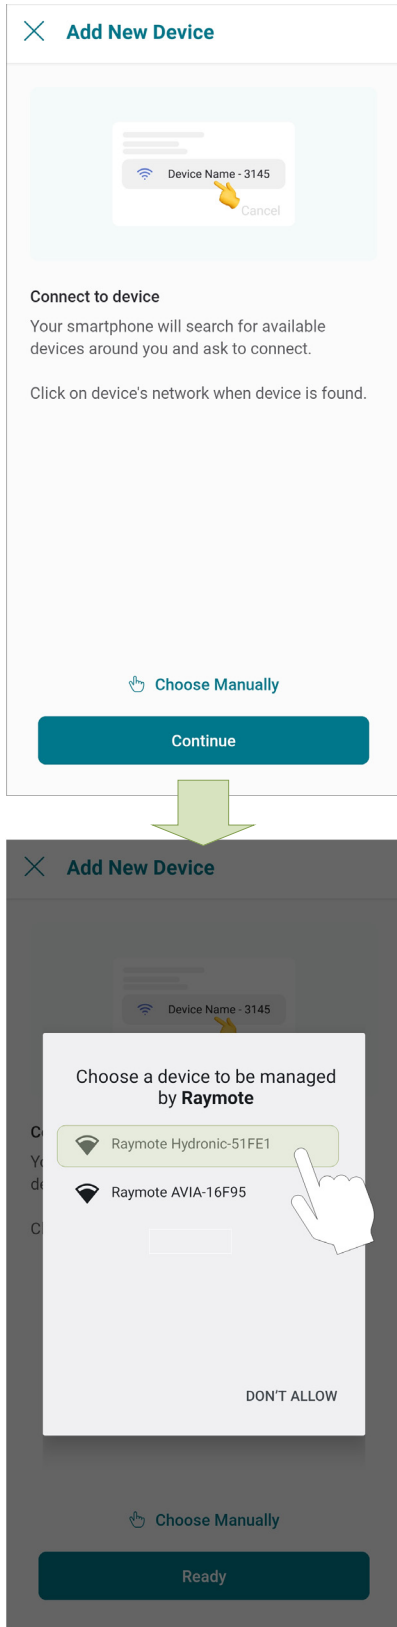

Figure 85. Connect with Android Smart Phone
5. **In Android:** Depending on your configuration, one or more devices will appear on the app. Select the HOTSPOT identifier that matches the unit's display as shown in **Figure 85**.